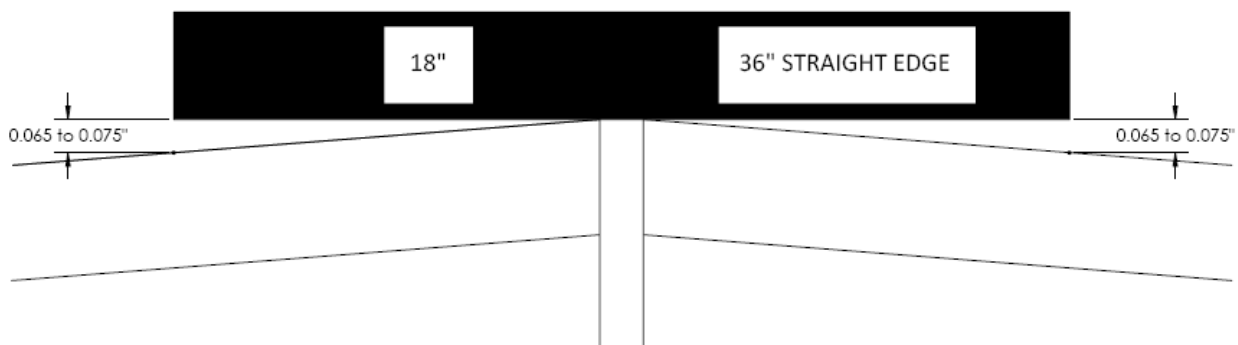

Figure 13.1
- b. The rail should be crowned such that no vertical offset exists and a gap of between 0.065 and 0.075 of an inch exists on each end of a 36- inch straight edge. These measurements should be within five (0.005) thousandths of each other. Adjustments should be made as required such that the rail is level after cooling; no droop should be accepted. (Figure 13.1)